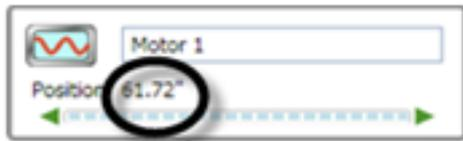

Figure 134
4. To set the **Max Fwd Position**, go to the **Manual Controls** section of the **Stagehand Editing Pane** and run the motor forward as far as its physical limit will allow. Observe the **Position** value at the top of the **Stagehand Editing Pane** (circled in Figure 134).